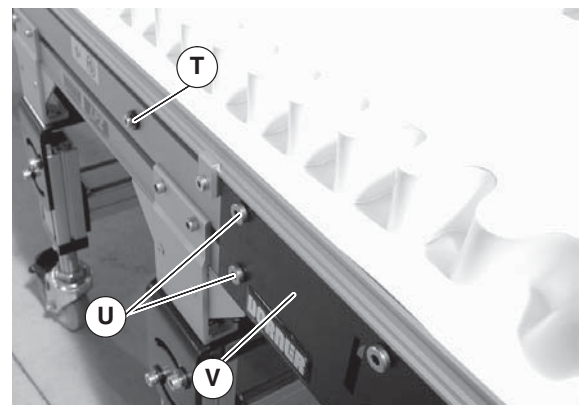
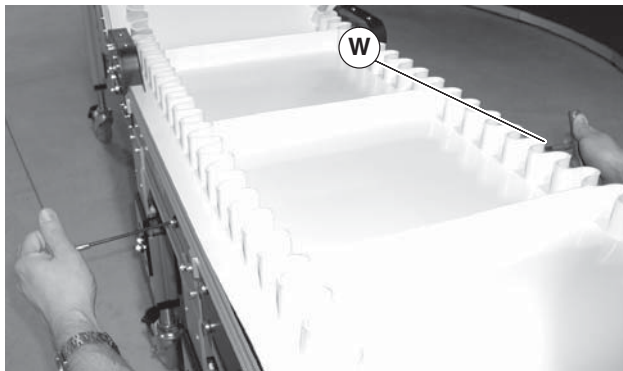

Figure 37
Figure 38
- On tension end of the conveyor, identified by the pinion locking screw (Figure 37, item T), loosen the two tail clamp bolts (U), on both sides of conveyor.
- With 5mm hex wrench, hold pinion torque screw (Figure 38, item W). Loosen the pinion locking screw (Figure 37, item T) and turn the pinion torque screw (W) to extend head plate assembly.
- After adjusting proper tensioning, tighten the pinion locking screw (Figure 37, item T) to 69 in-lbs (7.8 N-m), and tighten tail clamp bolts (Figure 37, item U) on both sides of conveyor to 146 in-lb (16.5 N-m).
1. Ensure tensioning racks are extended and touching the idler pulley headplates: loosen the pinion locking screw (Figure 37, item T) and rotate the pinion torque screw (Figure 38, item W) clockwise until contact with the head plate is made, then tighten the pinion locking screw (T) to 69 in-lbs (7.8 N-m)